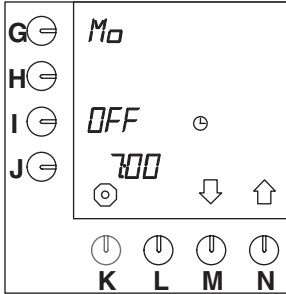

Fig. 32 Container preheating
- OFF appears on the display beside the programming key (I.) (fig.32 ).